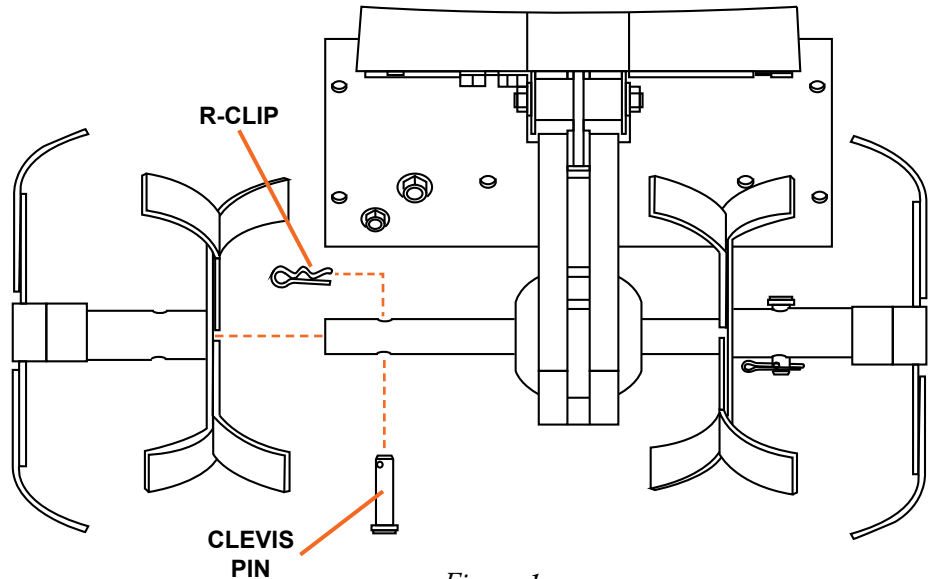

Figure 1
1. Slide the tines onto the tiller's axle. Align the connection holes and secure the tines to the tiller axle with a clevis pin and a R-clip (see Figure 1).